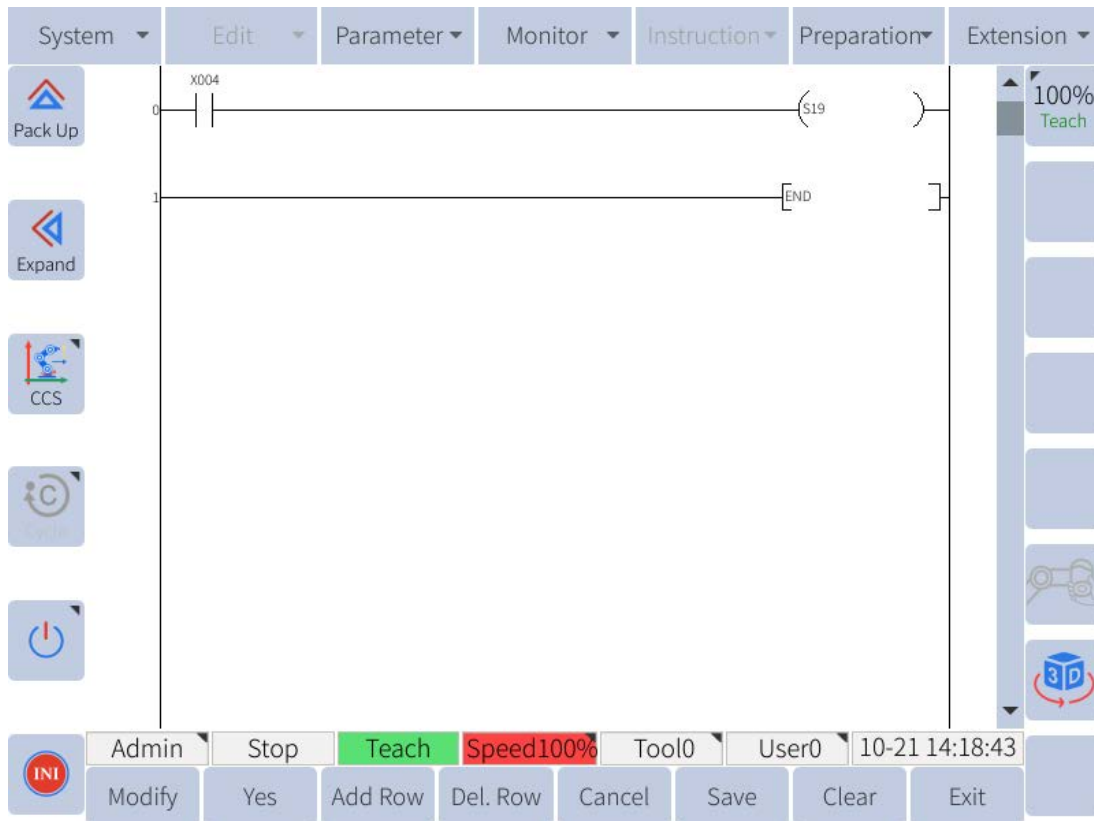

**Figure 10-6 :** An example of how to set up the PLC so the robot will enter reduced speed mode
**Figure 10-6** is an example of a PLC program the user can create to trigger reduced speed mode.